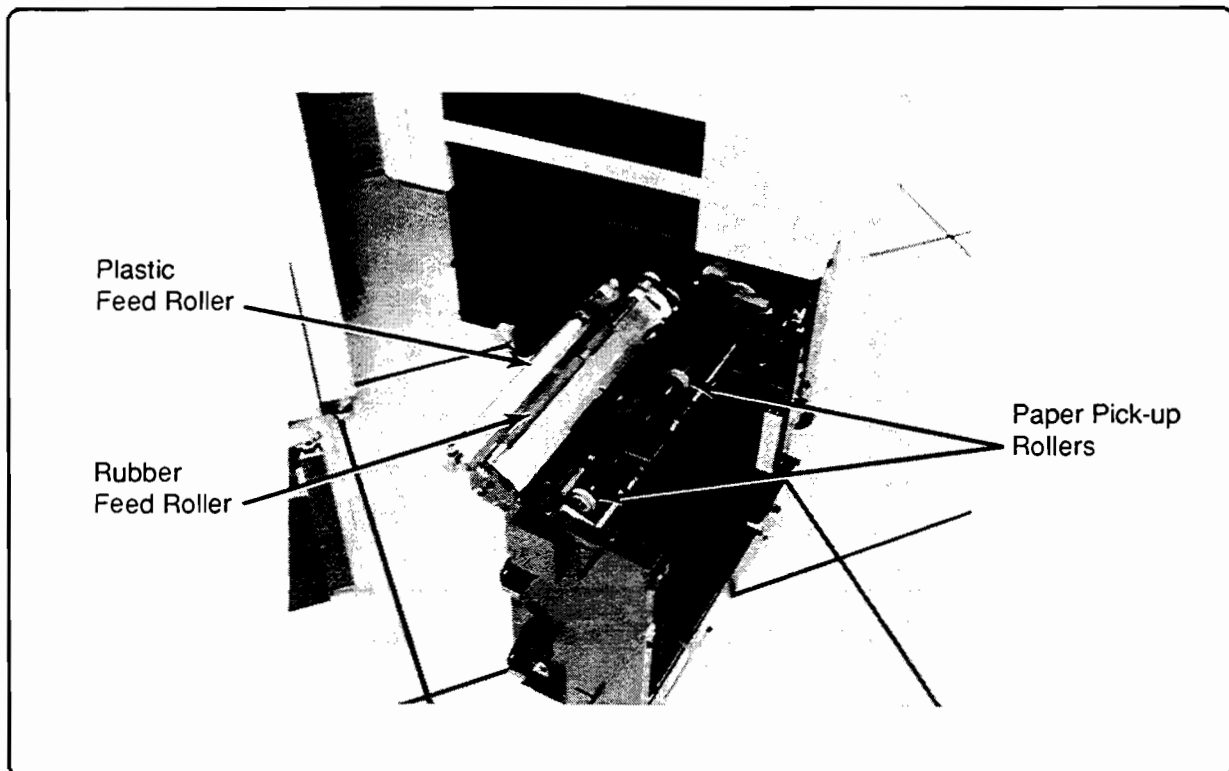

Figure 4-13. PDX Rollers
6. Clean the rubber feed roller with a Rubber Roller Restorer (Figure 4-13).
7. Clean the plastic feed roller with isopropyl alcohol (Figure 4-13).
9. Replace the paper pick-up rollers, two for letter size paper or three for A4 size paper (Figure 4-13, P/N FA3-2615-000CN).